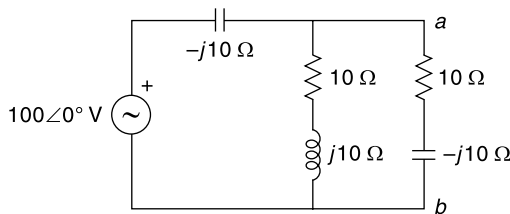

Fig. 6.9 Circuit of Ex. 6.9
6.9 Use Norton's theorem to find current in the load connected across terminals a and b of the circuit shown in Fig. 6.9.